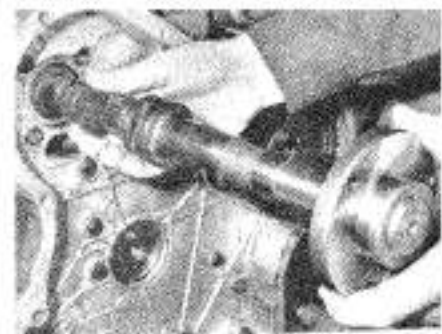

Fig. 70—The camshaft can be withdrawn as shown. The gear may remain installed.
**71.** To remove the camshaft, first remove timing gear cover as outlined in paragraph 64. Remove fuel tank, rocker arm cover and rocker arms and shaft assembly. Raise and secure cam followers in their uppermost position. Remove fuel lift pump, then withdraw camshaft as shown in Fig. 70.